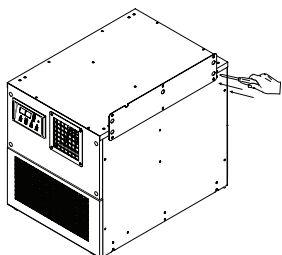

Figure 20 - bracket attachment
3. Use screw (enclosed inside of box with bracket) to install as shown in Figure 20.
5. Use screw (enclosed inside of box with bracket) to install as shown in Figure 20.